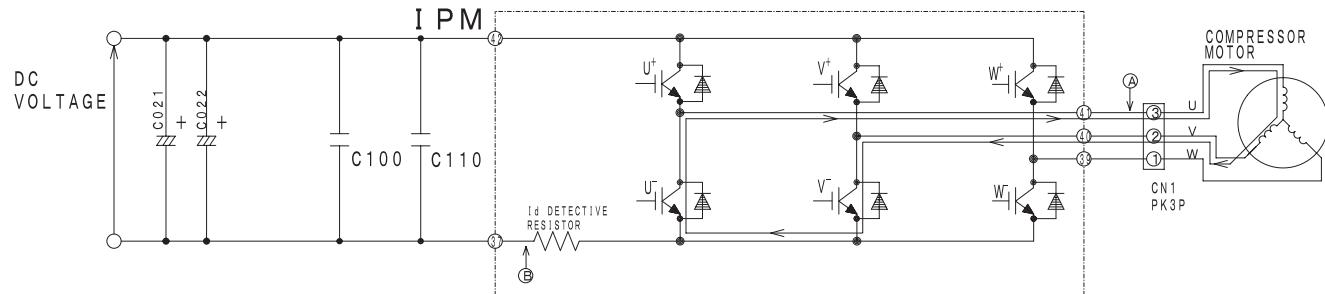

Fig. 4-4 Power module circuit (U^+ is ON, V^- is ON)
At point ⑥: U+ is chopped (OFF), V is ON (circuit in Fig. 4-4)
- (2) When U^+ transistor is OFF: (by inductance of motor coil) U coil → V coil → V^- transistor → Return diode → Point ③ (Fig. 4-4)